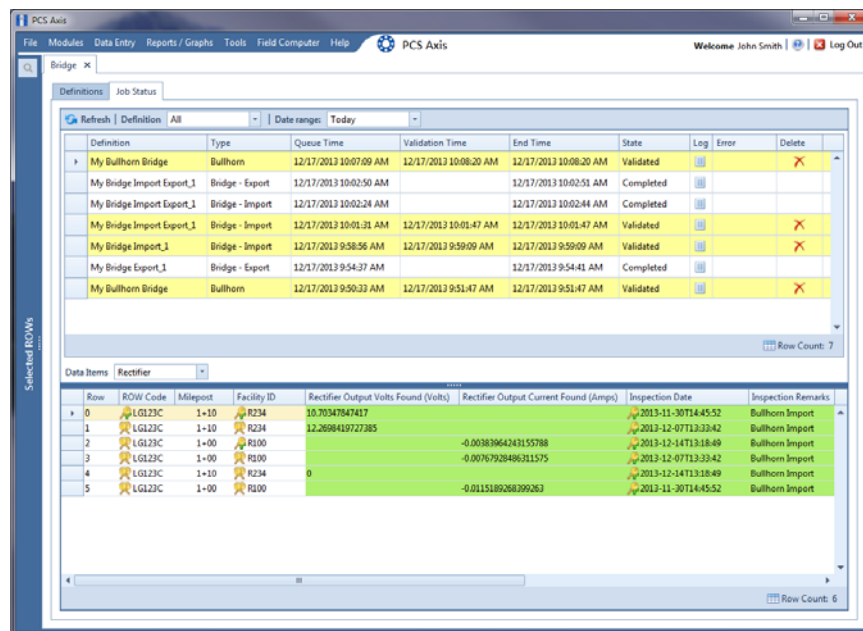

Figure 10-11. Job Status
- 16 To view the status of a Bridge session, click  **Job Status** in the *Definitions window* to open the *Job Status* window (Figure 10-11, page 502). Clicking  **Log** for a Bridge session opens the log file for the selected session.